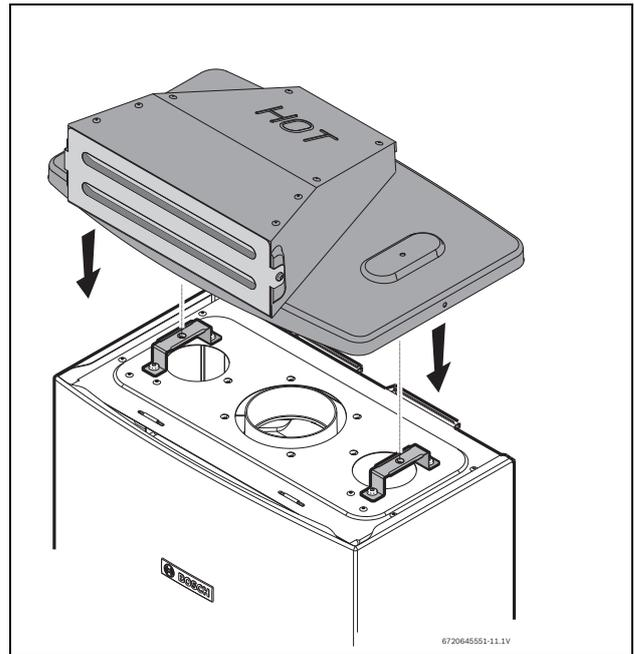

Fig. 10
- ▶ Position the outdoor vent cap on the top of the appliance, as shown in Fig. 10.